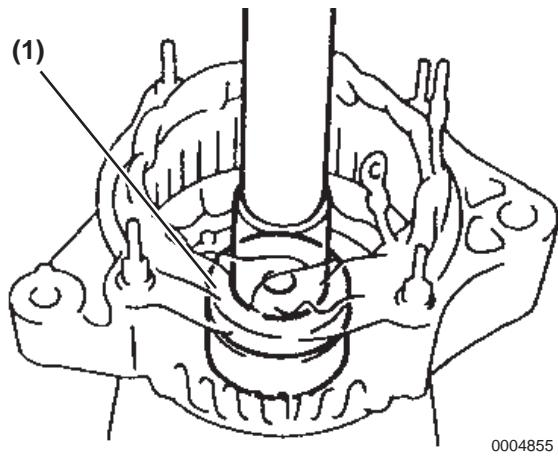

Figure 11-29
4. Press in a new bearing using the special tool (**Figure 11-29, (1)**) in the same manner and then install the 4 bearing retainer screws.